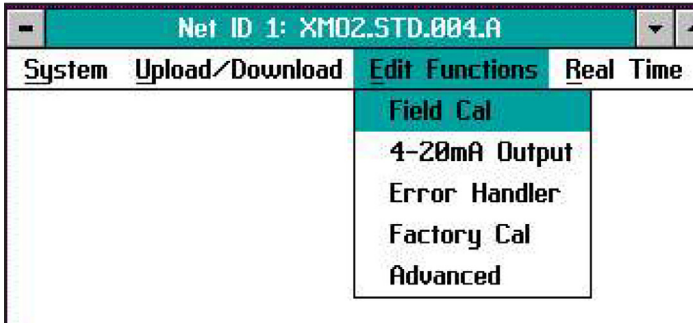

Figure 13: Field cal window
3. Click on the Field Cal option. In the Field Cal window (shown in *Figure 13* on *page 20*), click on the Configure Cal button.
The following three buttons appear at the right of all menu windows (see *Figure 13* on page 20):
When you select the Field Cal option, a window similar to the one in *Figure 13* below opens.
**Note:** Clicking on the Next Item/Enter button selects the option listed on the status line above the option buttons (Perform Cal in *Figure 13* above). The option listed on the status line in any window is the option that was chosen the last time that menu was used.